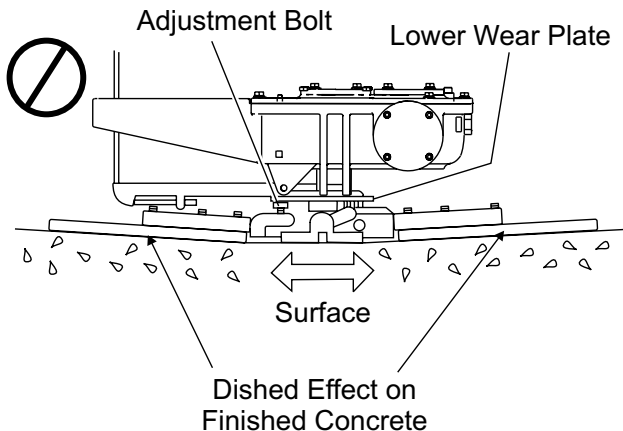

Figure 35. Incorrect Spider Plate Alignment
2. Pitch the blades as flat as possible. The adjustment bolts should all barely make contact with the lower wear plate on the spider. If one is not making contact, adjustment will be necessary. (Figure 35).
Figure 35 illustrates, "incorrect alignment", worn spider bushings or bent trowel arms. Check that the adjustment bolt is barely touching (0.10" max. clearance) lower wear plate. All alignment bolts should be spaced the same distance from the lower wear plate.